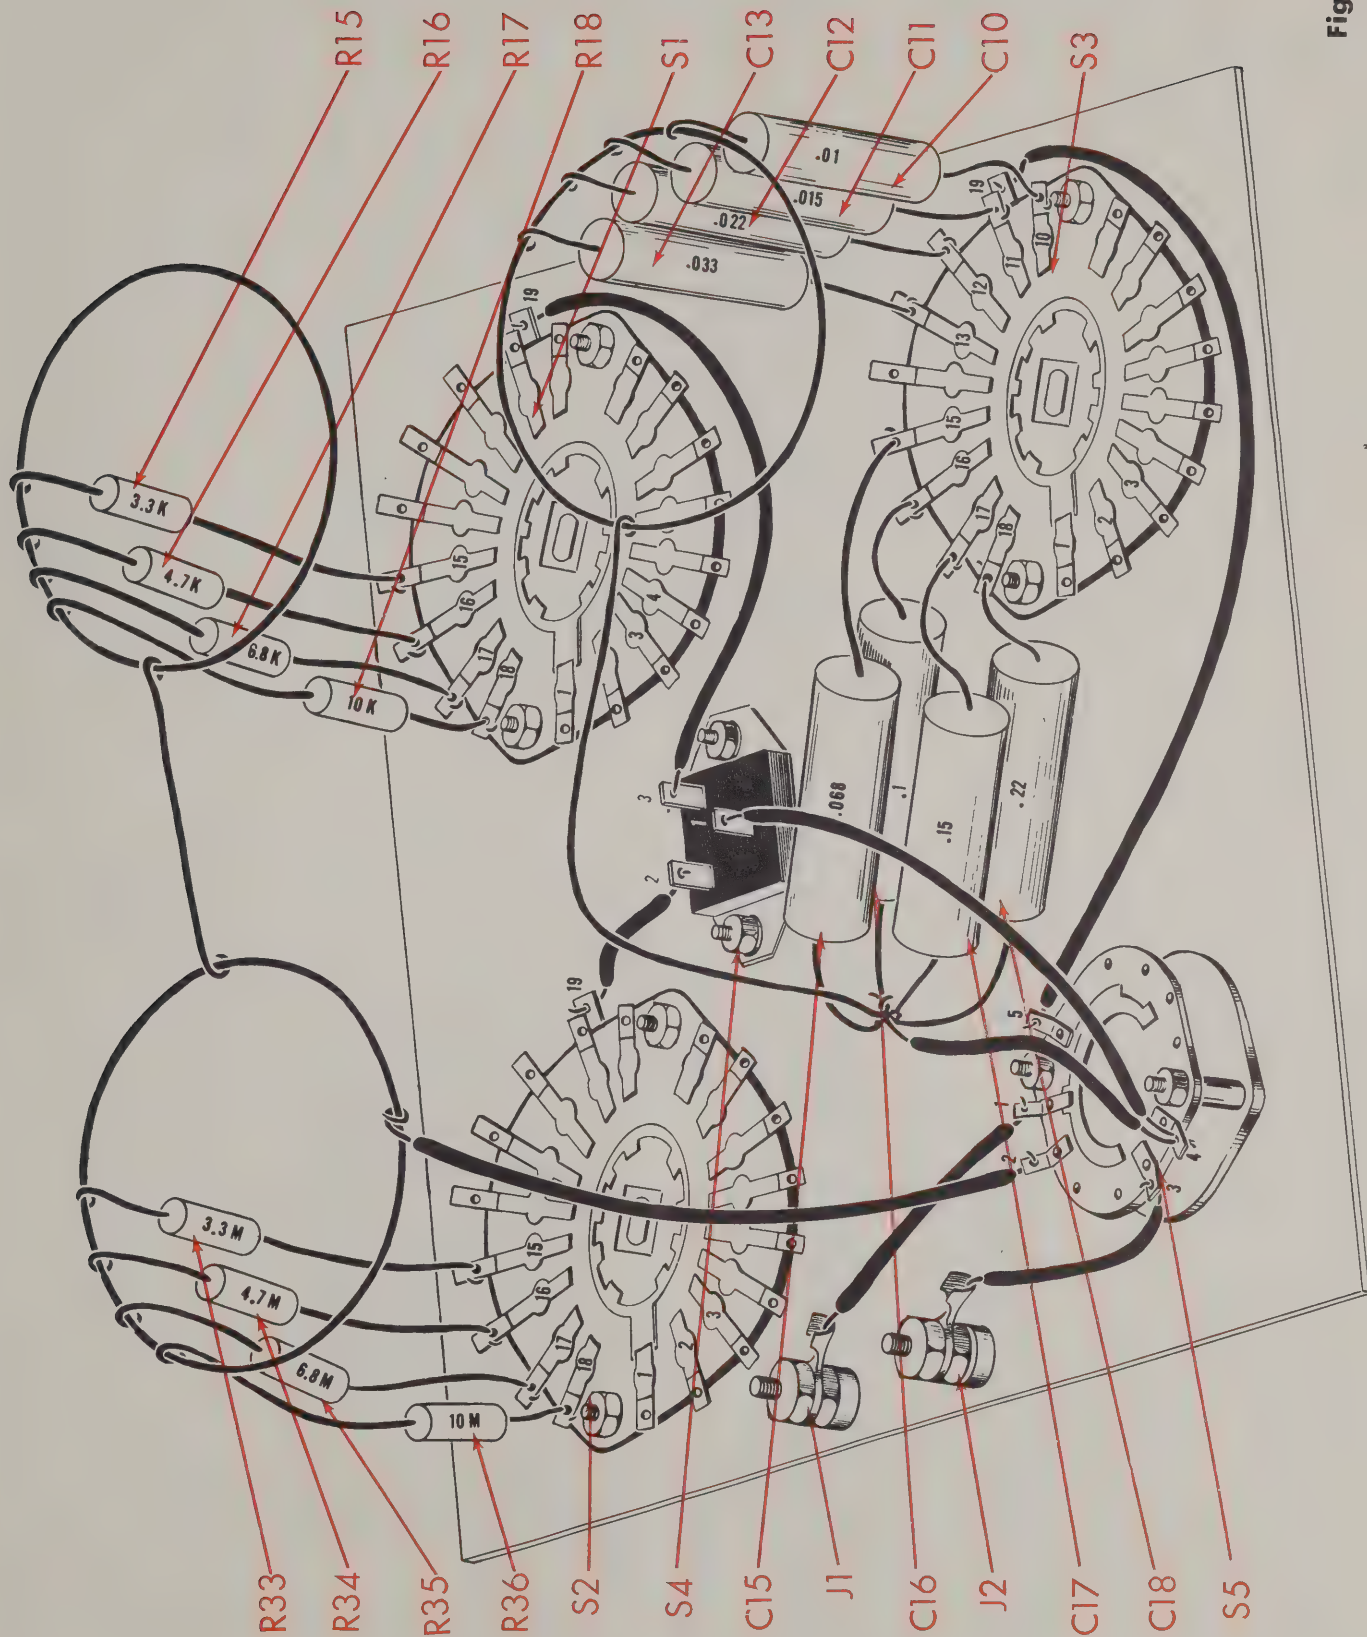

Fig. 3
1. () Fig. 3. All capacitors are to be mounted on S3. On the following capacitors, cut all leads to 3/4". Solder one lead to the contacts indicated below. Leave a 1/2" lead length between the contact and the body of the capacitor.
2. () Fig. 3. On the following capacitors, cut all leads to 1/2". Solder one end to the contact indicated below. Leave a 1/4" lead length between the contact and the body of the capacitor.
3. () Fig. 3. On the following capacitors, cut one lead to 1/2" and the other lead to 3/4". Solder the 3/4" lead from one end of each capacitor to the contact indicated below. Leave a 1/2" lead length between the contact and the body of the capacitor.
4. () Fig. 3. Cut both leads on a .047 mfd (yellow, violet, orange, silver, blue) capacitor, C14, to 3/4". Cover one lead with a 1/2" piece of spaghetti and connect to S3-14 (S).
5. () Fig. 3. Cut one lead on each of the remaining four capacitors to 1". Cut the remaining lead on each of the capacitors to 1 1/2". Cover each of the longer leads with a 1 1/4" piece of spaghetti and connect to the switch contact indicated below.
6. () Fig. 3. Wrap unsoldered leads of all resistors (soldered to S1) around one of the previously prepared rings as shown. Solder all leads from the 18 resistors to this ring. The ring should be suspended in the air by the resistors parallel to the switch.
7. () Fig. 3. Similar to the above, wrap unsoldered leads of all resistors (soldered to S2) around a second one of the previously prepared rings as shown. Solder all leads from the 18 resistors to this ring. The ring should be suspended in the air by the resistors parallel to the switch.
8. () Fig. 3. Similar to the above, wrap unsoldered leads of capacitors, C1 through C14 (soldered to S3) around the third of the previously prepared rings as shown. Solder the leads of these capacitors to the ring. The ring should be suspended in the air by the capacitors parallel to the switch. The height of each ring should be no greater than 2-1/8" above the panel.
9. () Fig. 3. Twist the lead of the remaining four capacitors, C15 through C18, together as shown. Around these leads, twist one end of a 5" piece of bare wire and a 2 1/2" piece of insulated wire. Solder all these leads together. Be careful that solder should flow over all of these wires at the twisted connection. Connect the remaining end of the insulated wire to S5-4 (C) and the remaining end of the bare wire to the ring (S) over the capacitor switch S3.
10. () Fig. 3. Connect a 4" piece of wire from S5-4 (S) to S4-1 (S).
11. () Fig. 3. Connect an 8" piece of wire from S5-5 (S) to lugs (S) on front side of S3.
12. () Fig. 3. Connect a 6" piece of wire from S4-3 (S) to lug (S) on front side of S1.
13. () Fig. 3. Connect a 2" piece of wire from S4-2 (S) to lug (S) on front side of S2.
14. () Fig. 3. Connect a 2" piece of wire from S5-1 (S) to jack J1 (S).
15. () Fig. 3. Connect a 2" piece of wire from S5-3 (S) to jack J2 (S).
16. () Fig. 3. Connect a 2" piece of bare wire from the ring (S) suspended above S1 to the ring (S) suspended above S2.
17. () Fig. 3. Connect a 2 1/2" piece of wire from S5-2 (S) to ring (S) suspended above S2.
18. () Fig. 3. Mount the panel in the cabinet. Use four #4 screws.